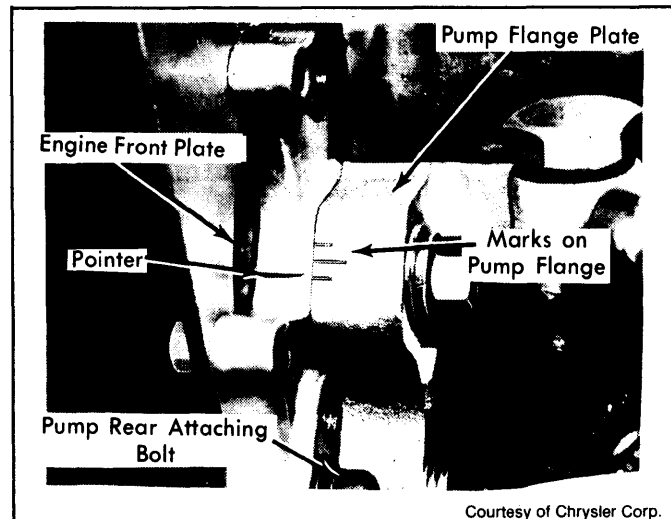

Fig. 3: Injection Pump Timing Scale
8) If observed value differs from specified timing, loosen 4 pump-to-flange plate nuts and rotate pump in amount of difference between observed and specified timing. See Fig. 3. Turning pump toward crankcase advances timing; away retards. The crankshaft angle varies by 6° for each division on flange plate scale.